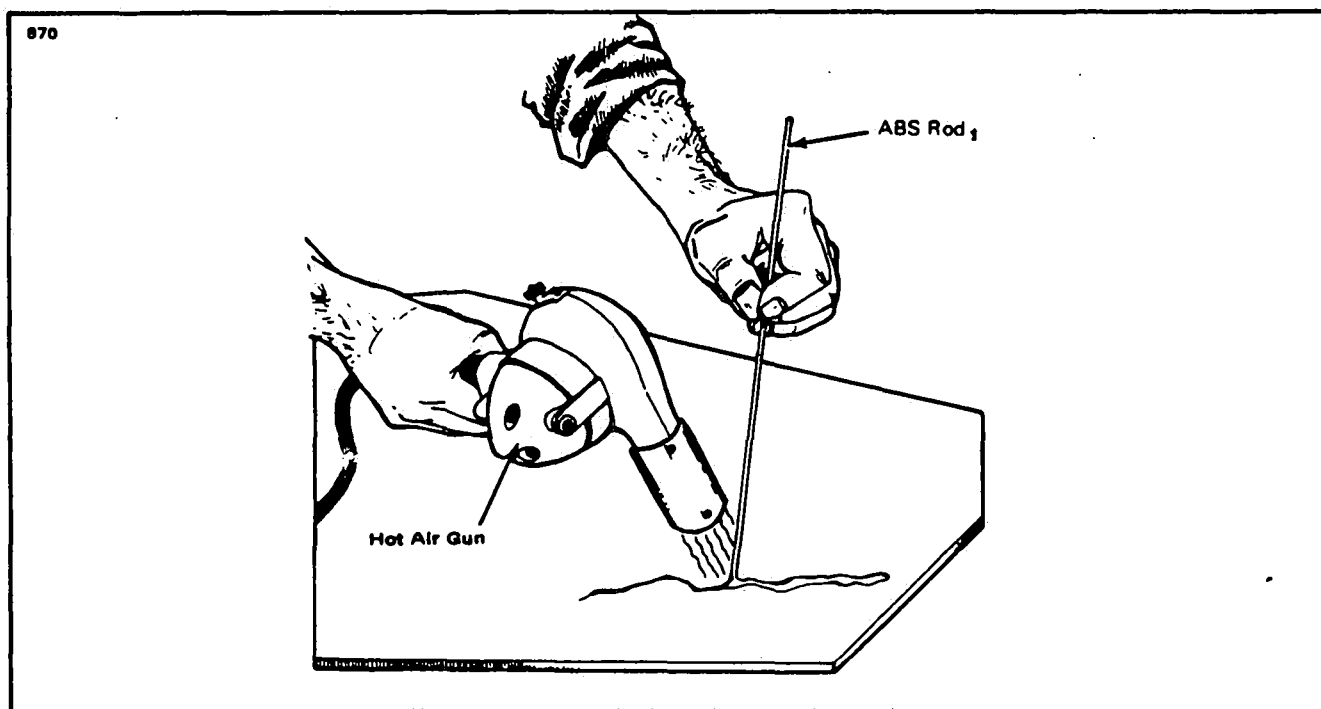

Figure 4-17. Welding Repair Method
10. This welding method requires a hot air gun and ABS rods. To weld, the gun should be held to direct the flow of hot air into the fusion (repair) zone, heating the damaged area and rod simultaneously. The gun should be moved continuously in a fanning motion to prevent discoloration of the material. Pressure must be maintained on the rod to insure good adhesion. (Refer to Figure 4-17.)